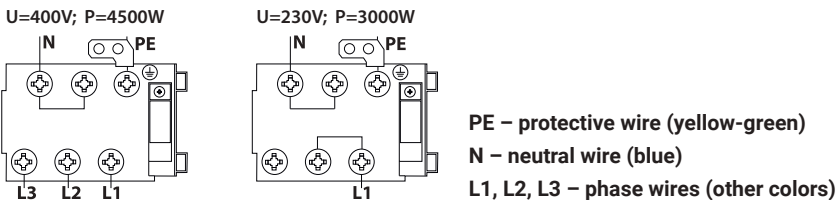

Fig. 2 - Label with connecting diagram
- Manual devices (801505, 801506, 801507, 801516, 801517) that are designed for connection of the power supply to the terminal box, can be connected in two ways in accordance with the diagram placed on the label (fig. 2) located on the back of the device. A standard connection is made for a 400V power supply. The type of the cord is given in table in point 3.